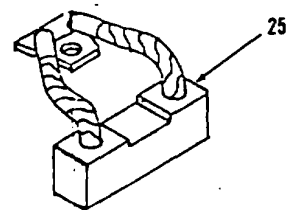

Figure 4-48.
1. Clean four brushes (25, Figure 4-48) with a dry cloth only. Do not permit dry cleaning solvent to contact brushes (25).